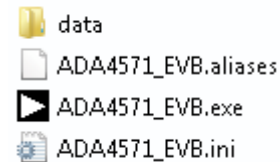

Figure 4. Placing Downloaded Files onto the PC
1. Place the downloaded executable file and supporting files in a convenient location for use (see Figure 4); it is recommended to place these files on the root C drive of the PC. Do not separate the executable file from the other files that are downloaded or the executable does not run